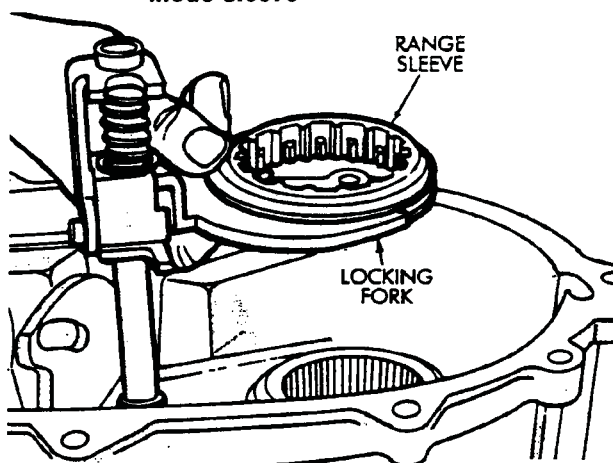

Fig. 4-16 Remove Locking Fork and Range Sleeve
21. Remove locking fork, range sleeve, fork brackets and fork springs as assembly (Fig. 4-16). Note component position for reference and disassemble for cleaning and inspection.